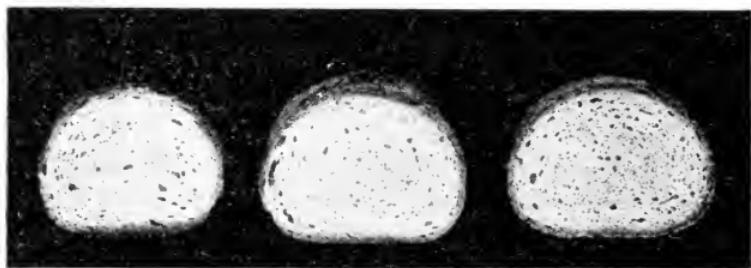

Fig. 3.—A, Rye bread made from straight dough; B, Rye bread made from sponge dough; C, Bohemian rye bread made with "Sauer."
Figure 3 gives an illustration of how I get about the same texture in Rye bread made with different methods. (A) is made from a straight dough (half Rye). But more yeast is required than for sponge dough and a piece of left over rye dough besides some Sauer. Say use 4 ounces of Sauer, 3 to 4 ounces of yeast and 3 to $3\frac{1}{2}$ ounces of salt to the gallon of water. The loaf is a little smaller than the sponge loaf but very sweet and close grained and smooth. (B) is made from our regular half rye sponge dough, more water poured for the dough, than for the sponge. (C) is a Bohemian Rye loaf, for which less water is poured on dough than on sponge and taken from the mixer direct to the divider or bench. I use ground caraway in every rye sponge, besides what is mixed into the sauer.